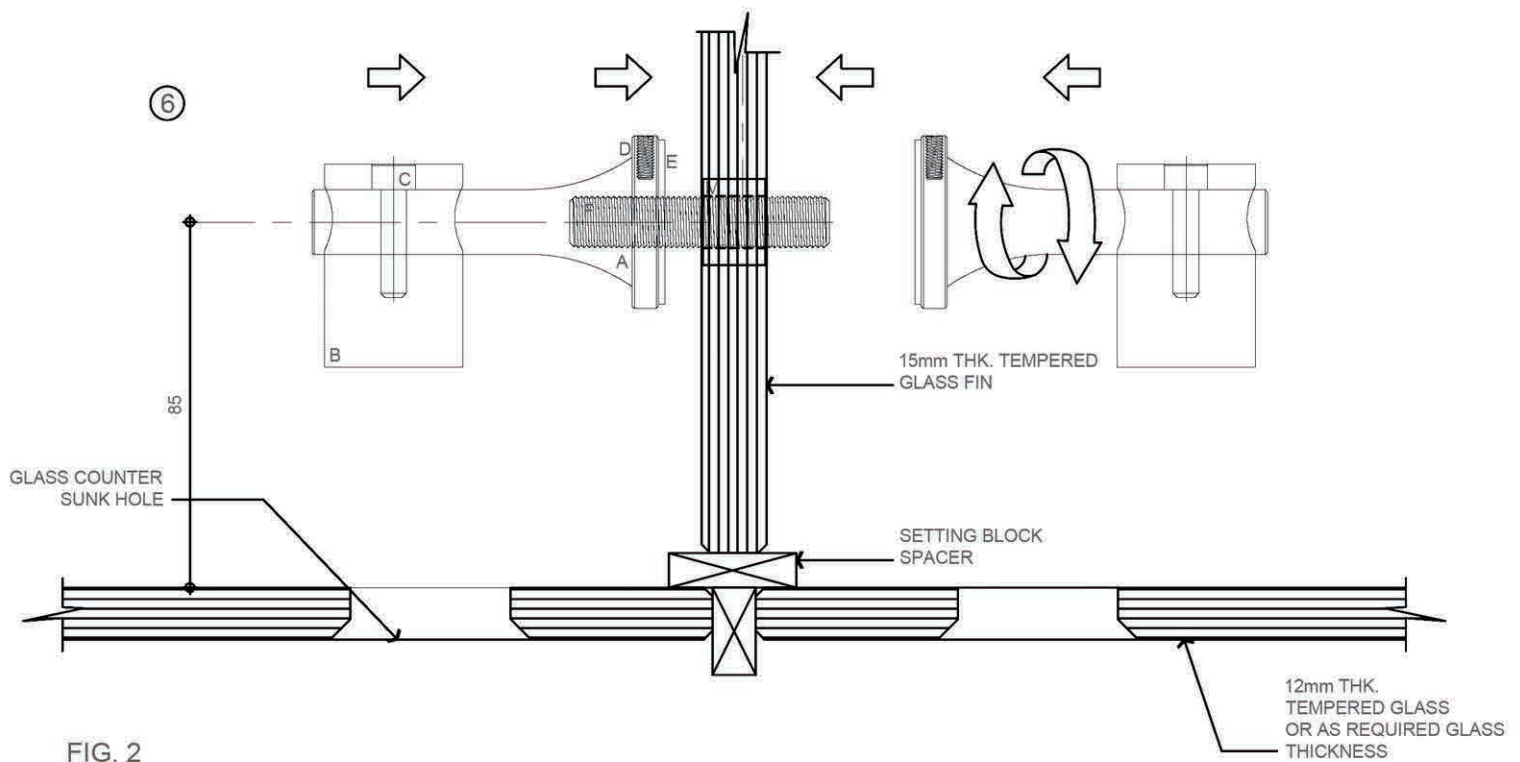

FIG. 2
- ⑥ THEN INSTALL THE ASSEMBLE MECHANISM TO GLASSFIN. (SEE FIG.2)